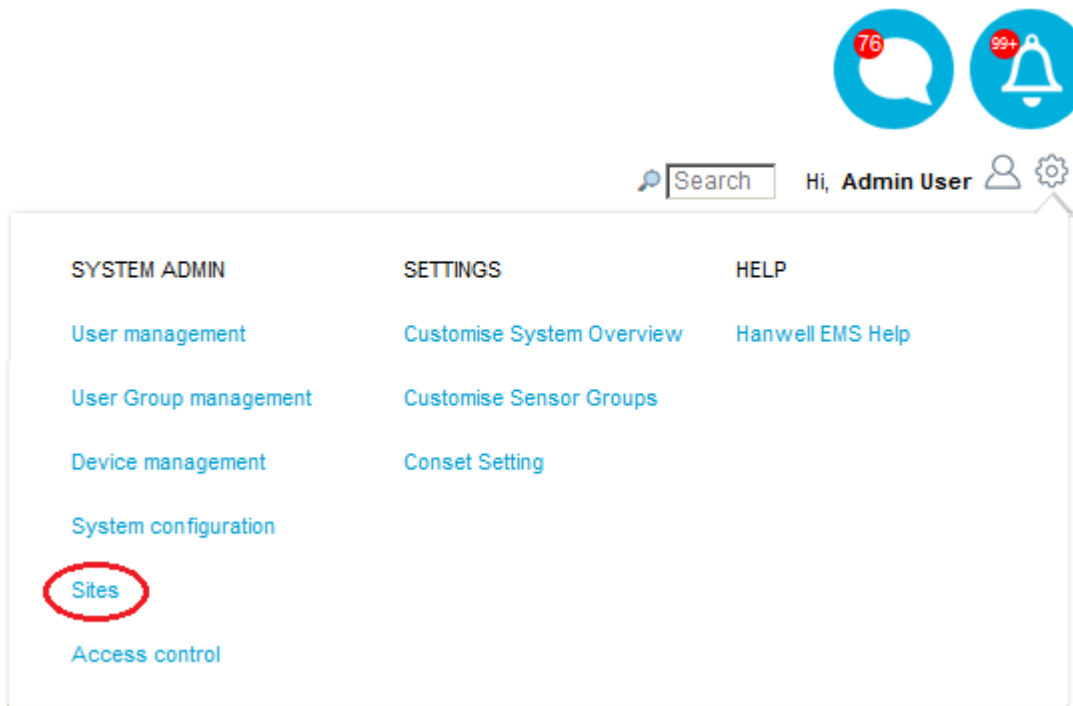

Figure 179
1. Select **Sites** from the **SYSTEM ADMIN** list in the **System** drop down menu. See Figure 179 below: